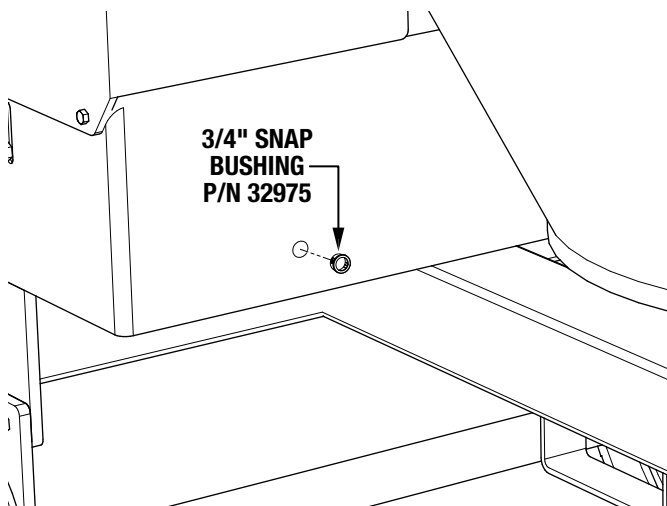

Figure 8. Cabinet Bushing Installation
2. Insert a 3/4" snap bushing (P/N 32975) into the newly drilled 3/4-inch hole. See Figure 8.